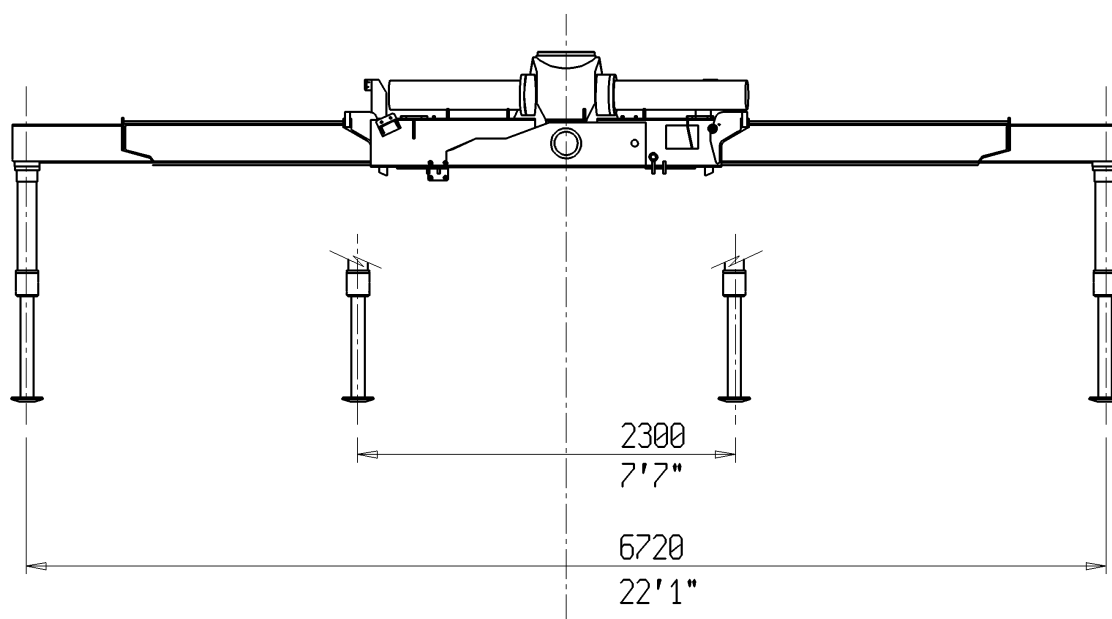

Fig.6-2
6.2 BRACCI STABILIZZATORI EXTRALLARGHI (Fig.6-2)
6.2 OUTRIGGERS BOOMS IN EXTRA LARGE VERSION (Fig.6-2)